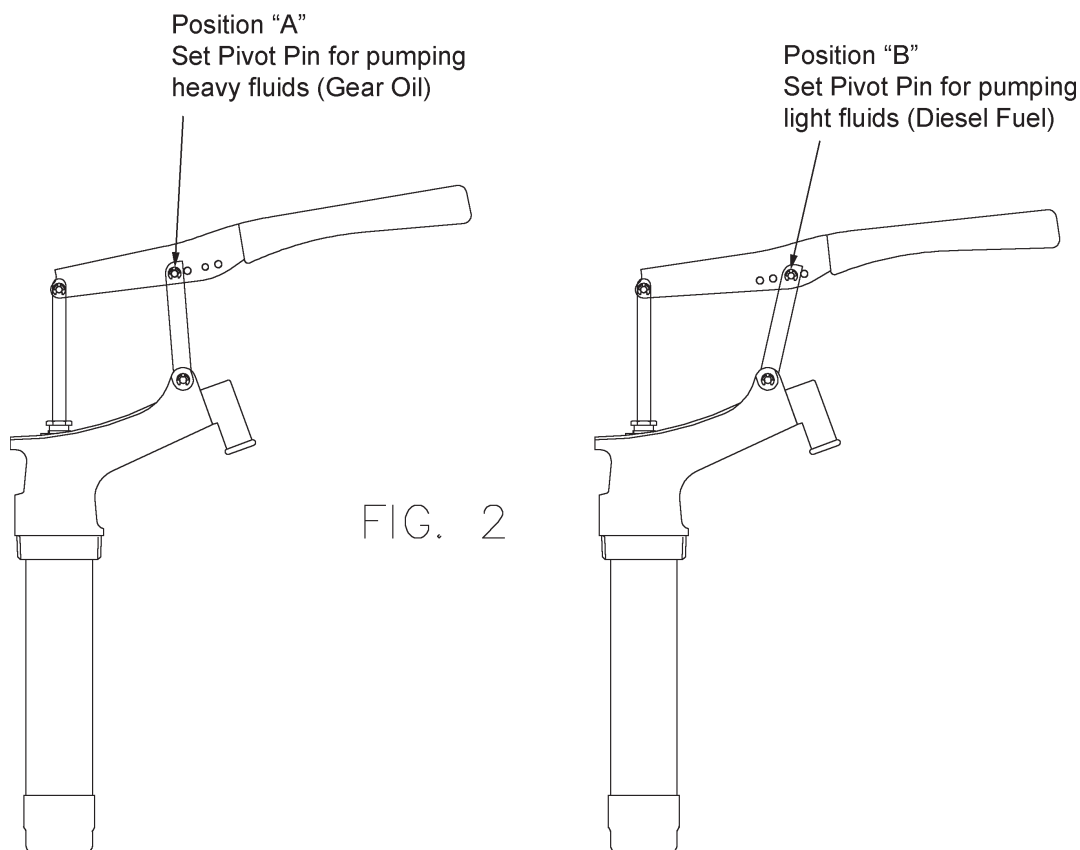

FIG. 2
B. Handle is positioned in the wrong setting for heavy fluid.	B. Adjust Handle Position (See Fig. 2).